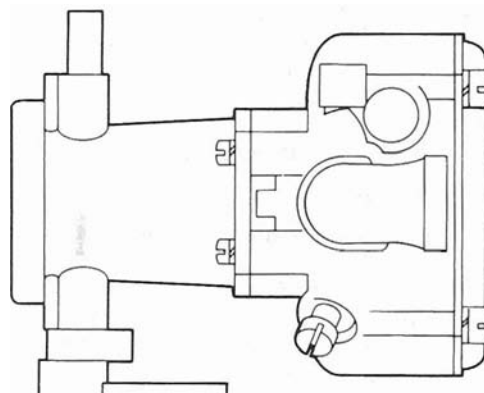

Figure 7
3. With an end wrench turn the load adjustment valve either left or right (See Fig. 7). Observe the HZ meter. If it drops, turn the adjustment valve the opposite direction. Adjustments should be made very slowly. Adjust back and forth until the highest HZ can be achieved. If the HZ is out of upper or lower limits, a governor adjustment will be necessary.